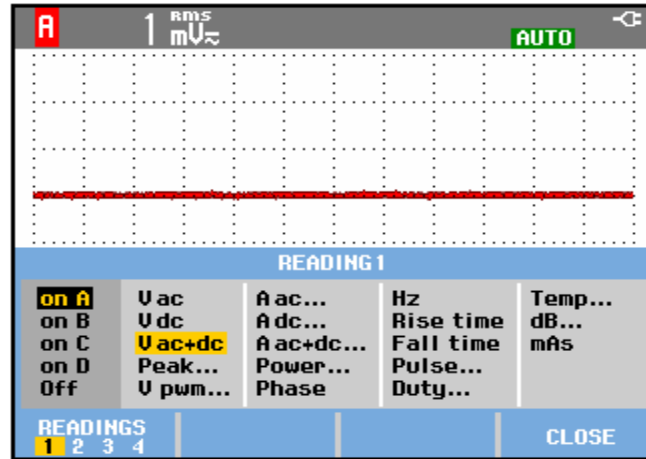

Figure 4-1. Menu item selection
- Open a menu, for example press , then press  (**READING ...**). A menu as showed in Figure 4-1 will be opened.